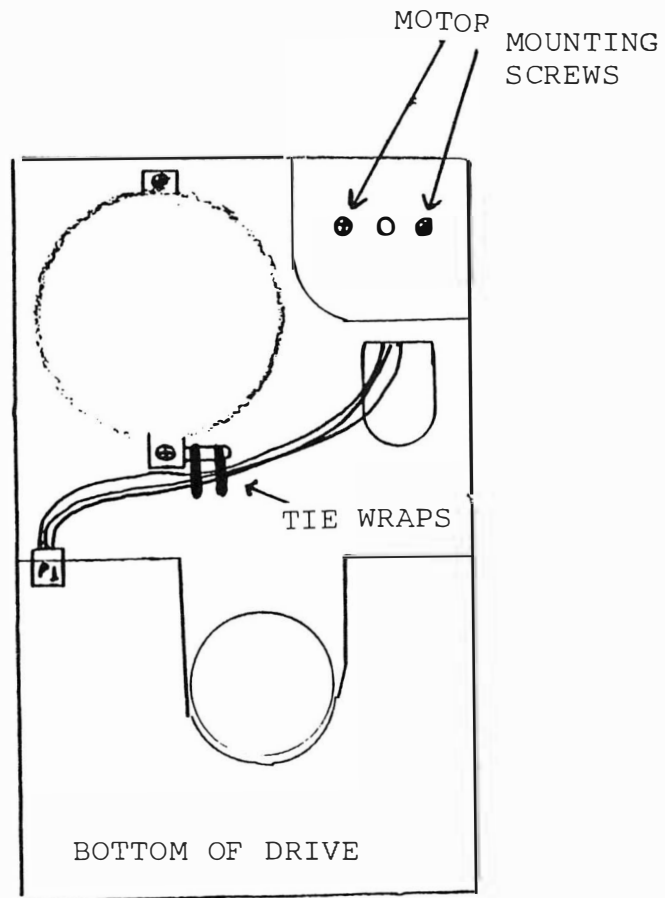

FIGURE 6-9
2. Cut the tie wrap at the front of the stepper motor (Figure 6-9).